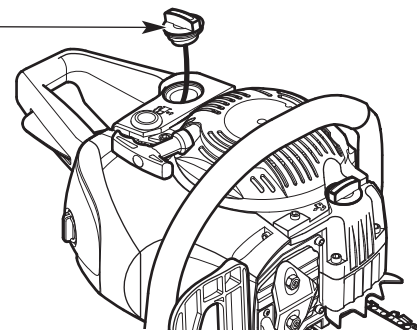

Fig. 2
2. Remove the fuel cap (Fig. 2).